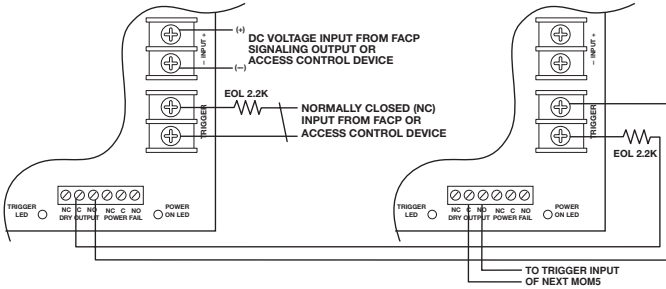

Fig. 3
8. Connect trouble reporting device to the terminals marked [POWER FAIL]. Connect to the [NO & C] for normally open and [NC & C] for normally closed output (*Fig. 3 - 7, pgs. 3 - 4*). This relay will switch when power is lost to the MOM5.